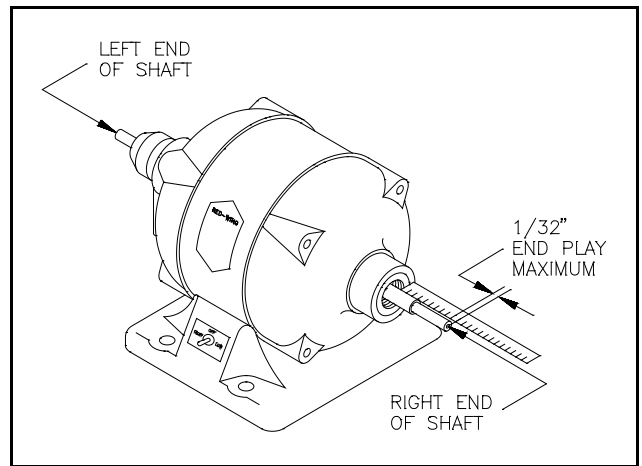

Figure 4. Shaft end play
- 4.2 Push on the left end while measuring the protrusion of the shaft. See Figure 4. You may need an assistant to push the shaft while you measure. If the end play is greater than 1/32" the lathe should be shimmed; go to step 5.0.